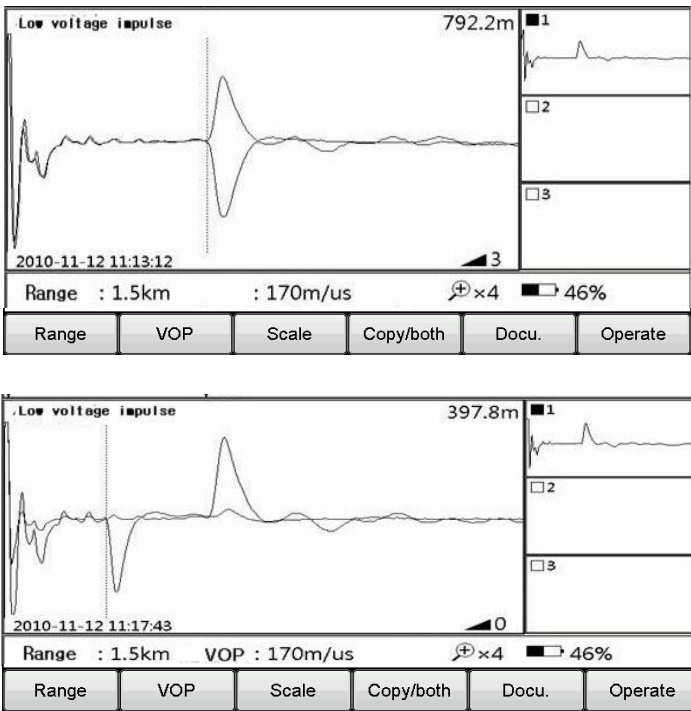

Fig.3.7 Relative distance locating
- Choose the **Zone 1 both** to display the two waveform in the main window in different color. The start of the bifurcation is the fault point position. Refer Fig.. 3.7